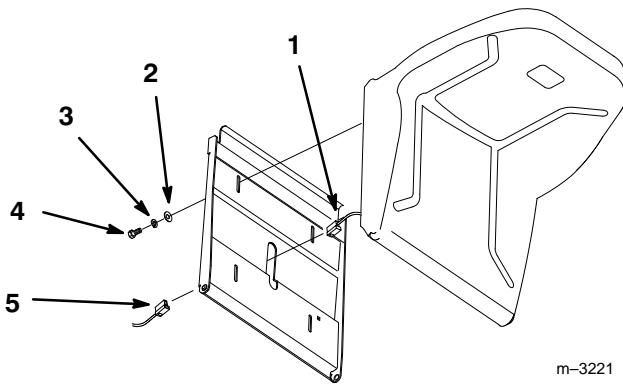

Figure 3
1. Tip seat pan up and position seat over slots (Fig. 3).
2. Secure with 5/16" lock washer, 5/16" washer and 5/16-18 x 3/4" (19 mm) bolt, through from the bottom (Fig. 3).
3. Connect seat switch lead to wire harness terminal (Fig. 3).